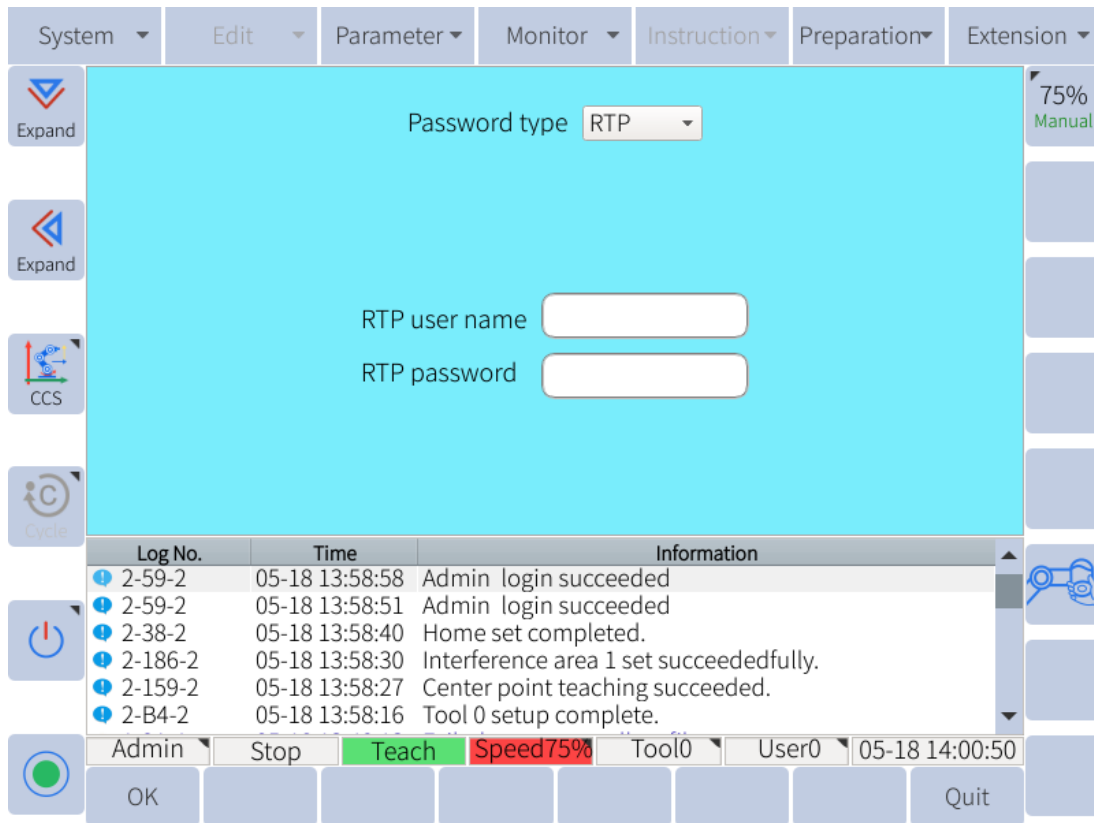

Figure 11-3 : set username and password
3. Enter the username and password, which is used to log in the website, as shown in **Figure 11-3** .